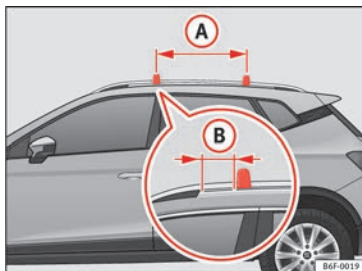

Fig. 168 Attachment points for the roof railings for the roof carrier system.
The crossbars are assembled on the roof railings. The distance between cross bars » Fig. 168 (A) should be 75 cm and the distance between the cross bars and the brackets of the roof railings (B) should be 5 cm.